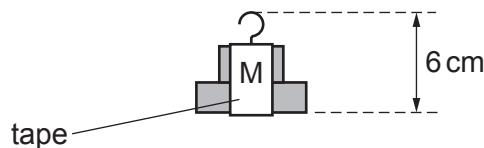

Fig. 1.3
- 3 The height of mass M and its hook should be no more than 6 cm, as shown in Fig. 1.3.